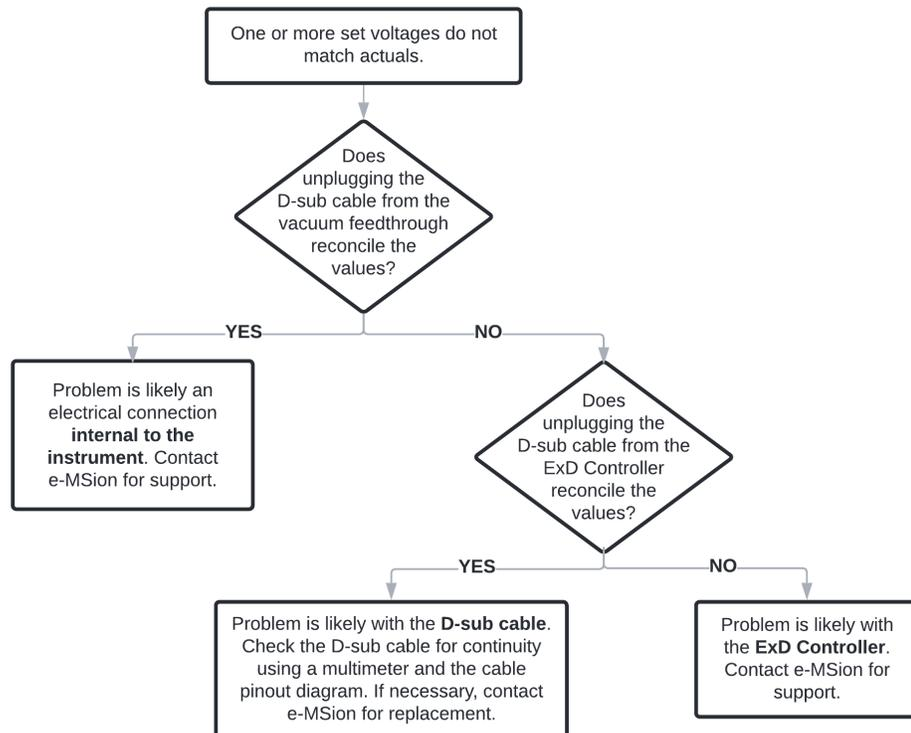

Figure 39. Decision tree for checking for ExD hardware malfunction.
- If a constant mismatch between these values for one or more lenses exists, use the decision tree in **Figure 39** to attempt to pinpoint the cause.